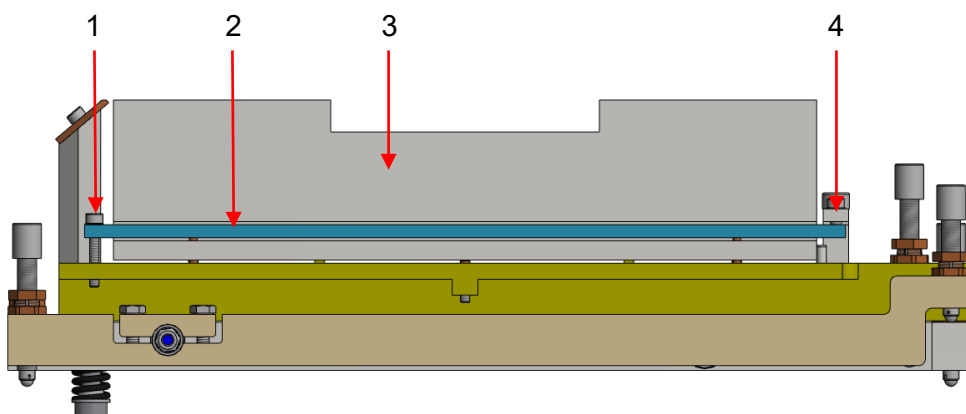

Figure 85: Grating holder assembly (side view)
Figure 85 illustrates the grating holder assembly. Two grooves at the long side of the dummy enable fixing the dummy to the yaw plate. This is realized by using two clamping strips guided through the grooves and fixed at both ends to the yaw plate.
- A. Loose and remove the two fixing screws (#1 in Figure 85) and the two clamps (#4 in Figure 85).
- B. Carefully remove both clamping stripes (#2 in Figure 85).